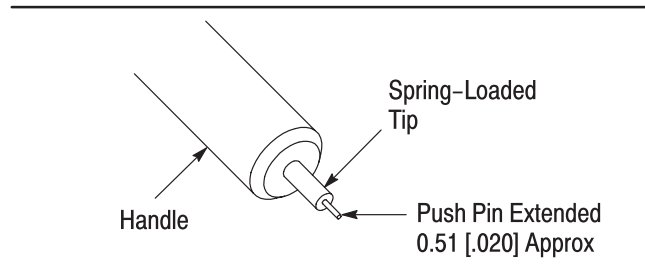

Figure 2
1. Turn the adjustment cap *clockwise* until the push pin is extended (approximately 0.51 [.020]) beyond the end of the spring-loaded tip. Refer to Figure 2.